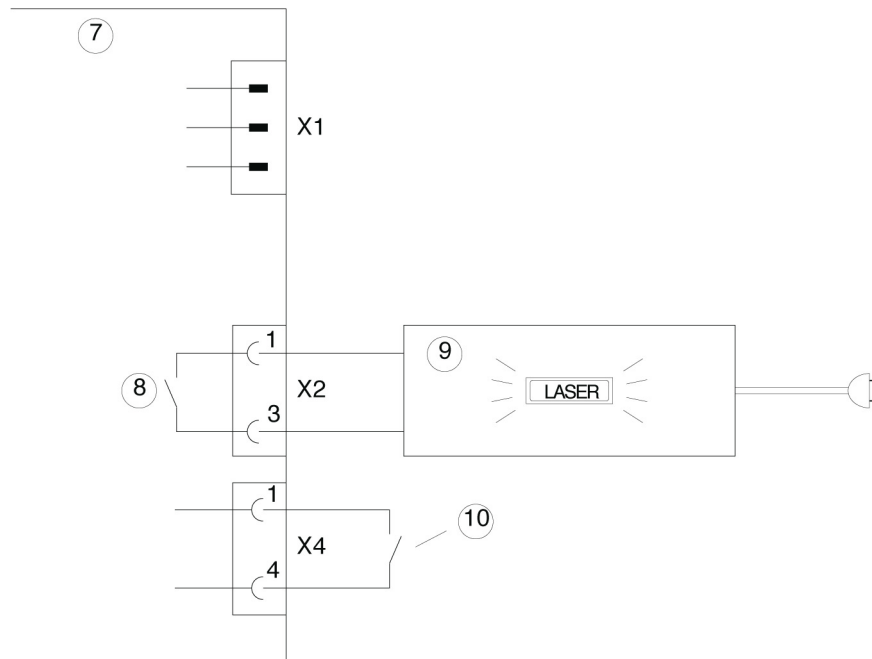

Fig. 5.3: Connections provided on the supply unit
they have been duly connected to the three-pole "laser-operation alarm contact" socket located on the rear wall of the supply unit (see Fig. 5.3).
An external door contact – as a normally closed contact – may also be optionally integrated into the safety system. In this case, the laser system lapses into the non-ignition state as soon as this contact is opened. At the same time, the "E03" error message is displayed. The unit can then only be used again after the door has been closed and the system has been restarted with the keylock switch located on the supply unit. The door contact must be connected between the contacts 1 and 4 of the four-pole connector socket provided on the rear wall of the supply unit (see item 9, Figs. 2.9 and 2.10, and item 10, Fig. 5.3). The connectable load is 24 V / 0.1 A.